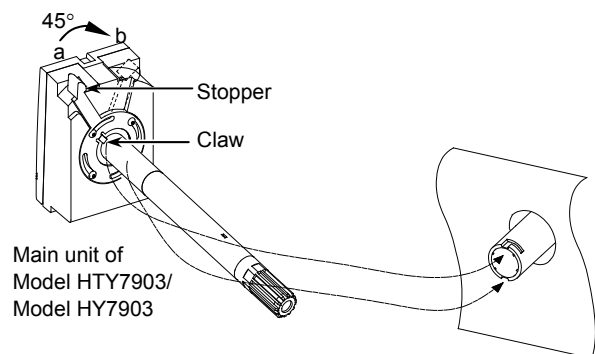

Figure 5. Mounting the main unit on the duct (with the mounting bracket)
- 4) Turn the main unit stopper 45 degrees (from 'a' to 'b' shown in Fig. 5) to unlock, and insert the probe of the main unit into the bracket as the main unit claws and the bracket slits match.